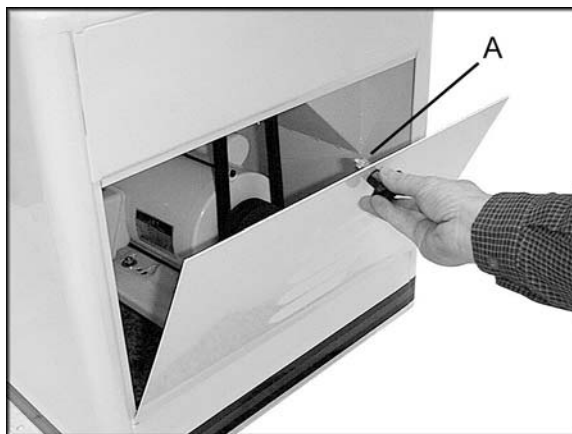

Figure 9
Install access door by placing bottom of panel into access in stand and fastening by turning latch (Fig. 9).
2. Loosen the hex lock nut (A, Fig. 9). Rotate the latch a quarter turn clockwise to tighten and counterclockwise to loosen.
3. Tighten the lock nut (A, Fig. 9).